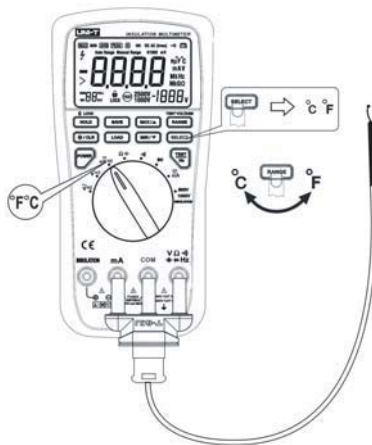

Figure 14.Measuring Temperature
**Measuring Temperature (UT532 and UT533 only)** (see figure 14)